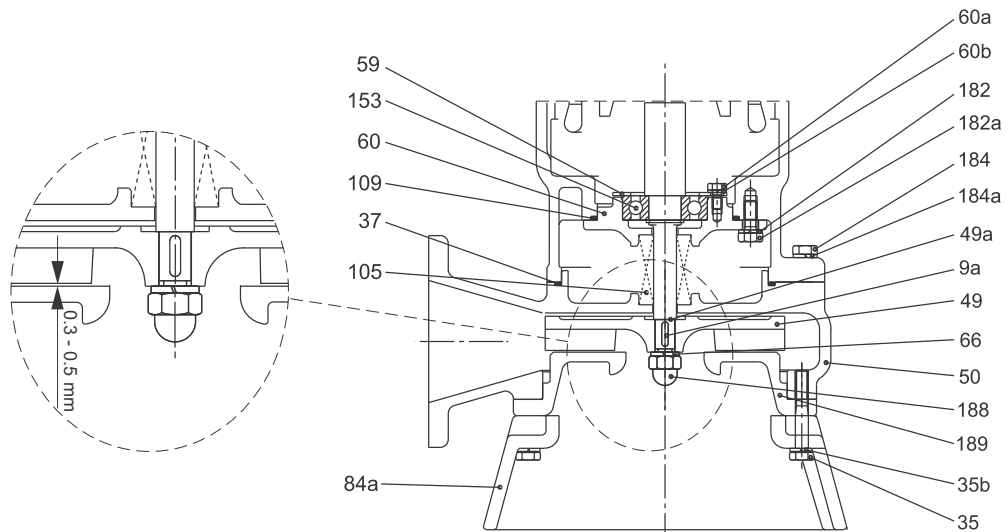

Fig. 13 Impeller and pump housing assembly and impeller clearance
1. Fit and lubricate the O-ring (37 or 39) on the pump housing (50).
2. Fit the pump housing (50) and tighten the screws (184) according to torques in the table in section 3. Tightening torques.
4. Fit the key (9a) in the shaft.
5. Fit the impeller (49) on the shaft and tighten the nut (188) according to torques in the table in section 3. Tightening torques.
6. Fit the inlet cover (189) to the pump housing and tighten the screws (188a) according to torques in the table in section 3. Tightening torques.
7. Check the impeller clearance. See fig. 13. The impeller clearance must be between 0.3 and 0.5 mm. If the impeller clearance is outside this range, dismantle the impeller and add or remove spacer rings to obtain the right clearance. Then check the clearance again.
8. Fit the inlet strainer or ring stand (84a) and tighten the screws (35) according to torques in the table in section 3. Tightening torques.